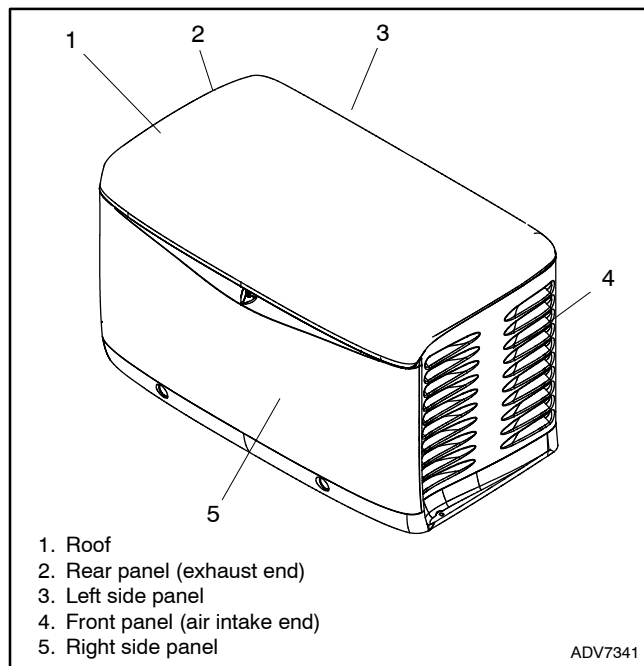
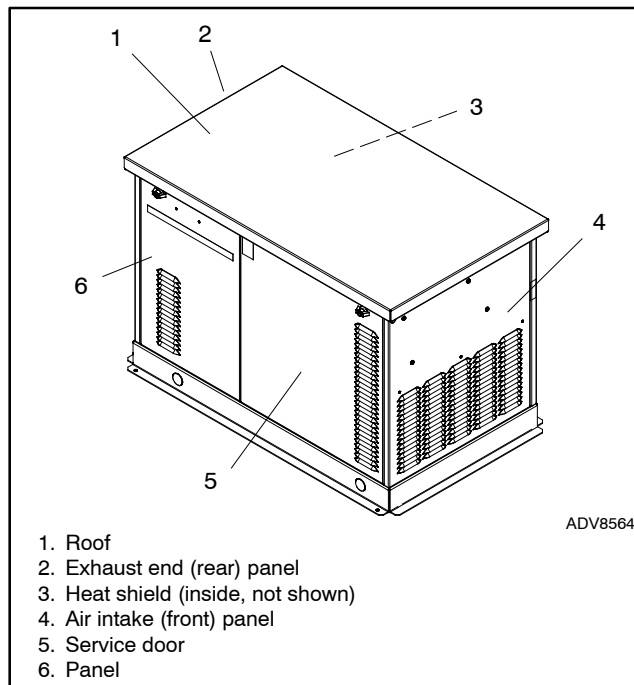

Figure 6 Enclosure Parts(14RESA(L) and 20RESC(L) Models)
Figure 7 Enclosure Parts (20RESD Model)
1. Open the enclosure roof. Locate the generator set controller and the engine air cleaner. See Figure 6 and Figure 7.
5. For 14RESA(L) and 20RESC(L) Models: Lift up the thermal cover.